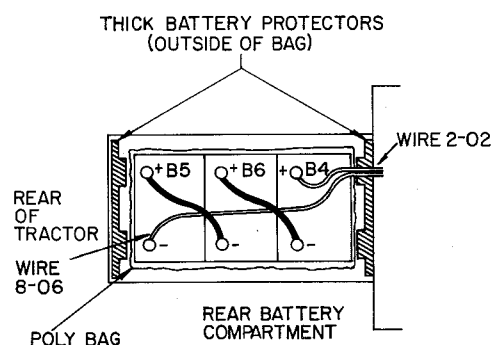

Figure 6. E8HM Rear Compartment
6. Place one, thick, vacuum-formed, battery protector between the poly bag and the compartment wall at each end of the compartment. Position the protectors so their corrugations will face the battery walls. See Figure 6.
7. Carefully set the batteries in the bag as shown in Figure 6 so that the sides of the bag remain above the top surface of the batteries in equal amounts and all wires are accessible. (It may help to tape the upper edges of the bag to the tractor sides temporarily to permit easy insertion of the batteries.)
8. Connect the battery cables and wires in accordance with Figure 6. Coat the terminals after